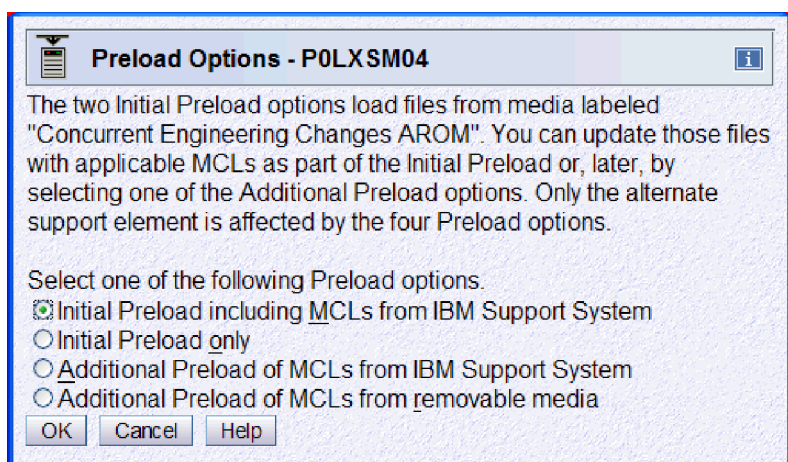

Figure 53. Preload options
2. The Preload Options window is displayed as shown in Figure 53.